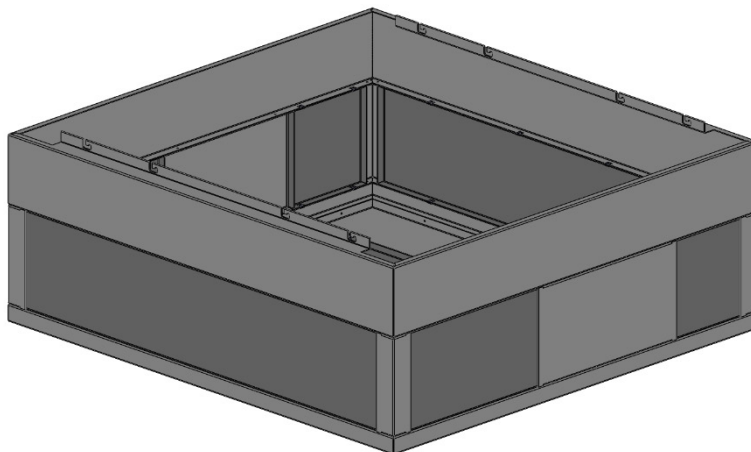

Figure 55 – External Diffuser Box
1. The External Diffuser Box assembly has been designed to fit over the Internal Diffuser Assembly for below ceiling configurations – see figure 55.